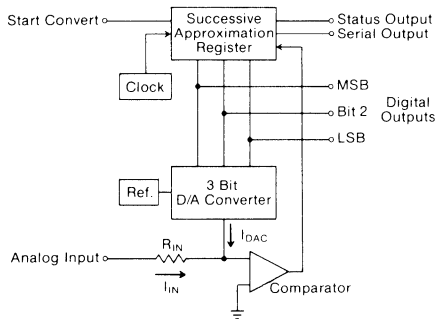

Figure 40. Block diagram of a 3 bit successive approximation A/D converter. This technique is very similar to weighing an unknown on a chemist's balance.
Virtually all successive approximation (SA) analog to digital converters are voltage input devices, and the conversion process is remarkably similar to finding the weight of an unknown object using a chemist's balance and a set of binarily weighted known weights (e.g., $\frac{1}{2}$ lb., $\frac{1}{4}$ lb., $\frac{1}{8}$ lb., $\frac{1}{16}$ lb. (= 1 oz.), $\frac{1}{2}$ oz., $\frac{1}{4}$ oz., etc.). All of the A/D converters presently manufactured by Micro Networks are successive approximation types. Figure 40 shows a simplified block diagram for a 3 bit, 0 to $+10V$ successive approximation A/D. Figure 41 is its timing diagram. The circuit consists of a block of controlling logic and flip flops known as a successive approximation register (SAR), a current output D/A converter with reference, a clock, and a comparator. The outputs of the SAR's four flip flops act as both the direct (parallel) data outputs of the converter and the digital drive for the internal D/A converter. When the appropriate signal is applied to the converter's Start Convert input, the Status output rises to a "1" indicating that the converter is in the process of performing a conversion and that digital output data is not valid. At the same instant, the digital outputs of the SAR all go to "0" except for the MSB which is set to a "1". In this state (called the reset state), the digital output of the A/D is 100, and the current (IDAC) coming out of the internal D/A is the MSB current.
Figure 41. Timing diagram for the 3 bit A/D of Figure 40. After a conversion has been initiated, each output bit is set to its final value on successive rising clock edges.